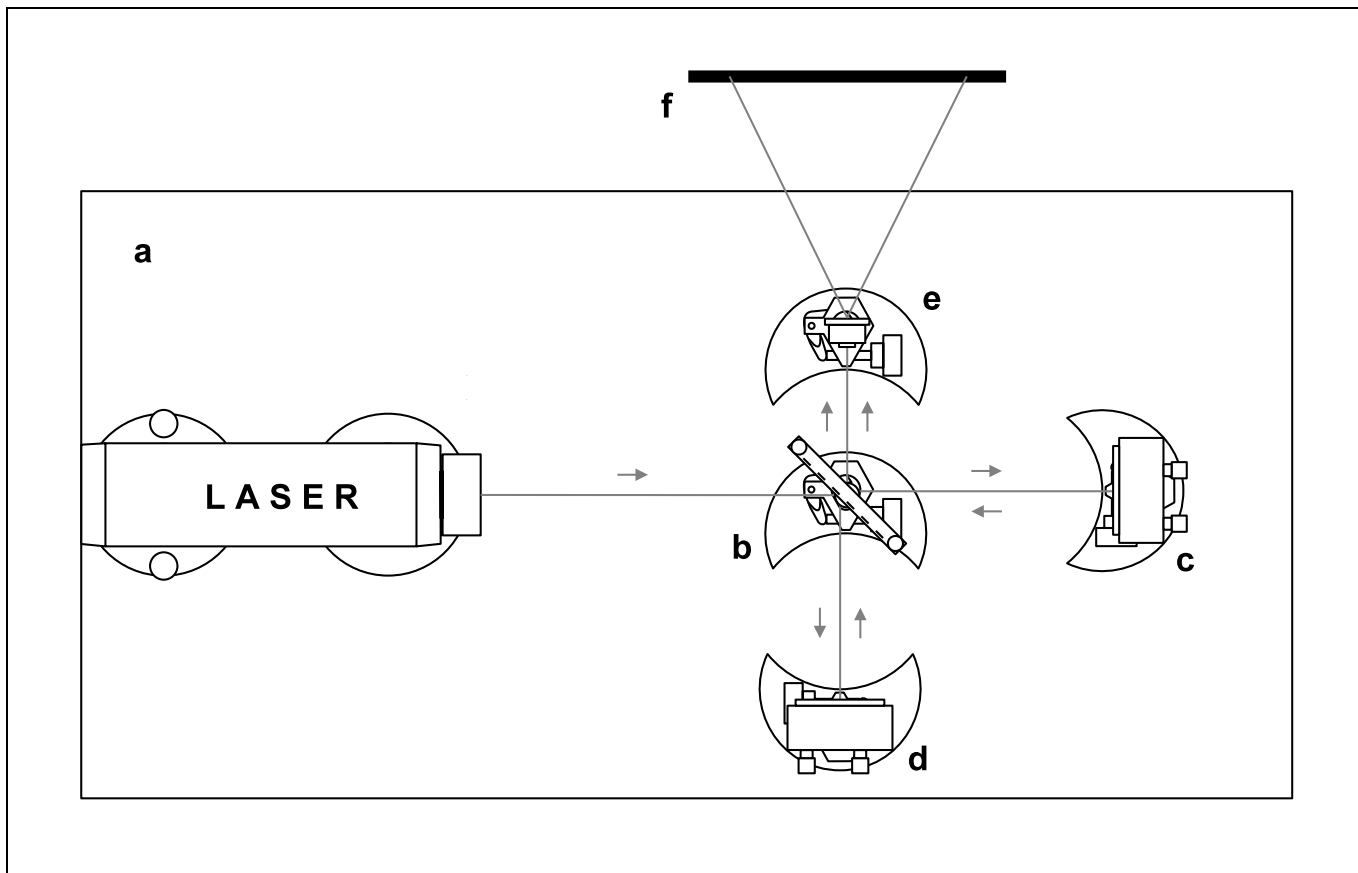

Fig. 2: Setup of the Michelson interferometer on the laser optics base plate, top view
Fig. 2 shows the setup of the Michelson interferometer on the laser optics base plate. To set up the experiment correctly, you must carry out the following steps:
- Finally, place the beam divider in the beam path at an angle of  $45^\circ$  as shown in Fig. 2. The partially transparent layer of the beam divider should face the laser.
- Fasten the translucent screen (f) in the base and set it up behind the laser optics base plate as shown in Fig. 2 so that the laser beam strikes it in the center.
- Place planar mirror (d) in the partial beam reflected from the beam divider (b) as shown in Fig. 2; position it about as far away from the beam divider as planar mirror (c).